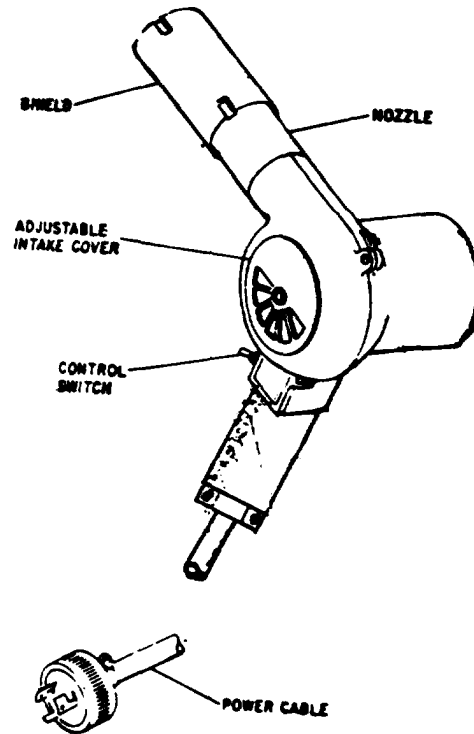

Figure 1. Thermal Gun Set;
The thermal gun (Fig.1) is a portable hand or stand operated unit that produces a flameless concentrated heat. This heat can be used for shrinking thermo plastic tubing, molded parts, etc.
6. Operating Controls (Fig.1)